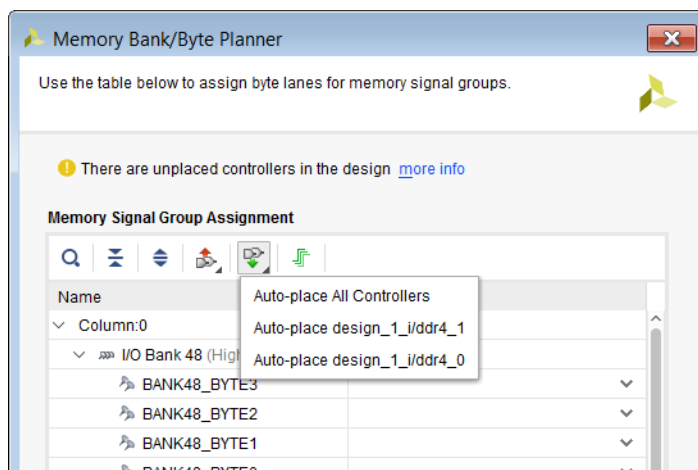

Figure 4-12: Auto-Placing Memory Controllers
2. Select **Auto-place All Controllers** or **Auto-place <controller name>** (Figure 4-12).